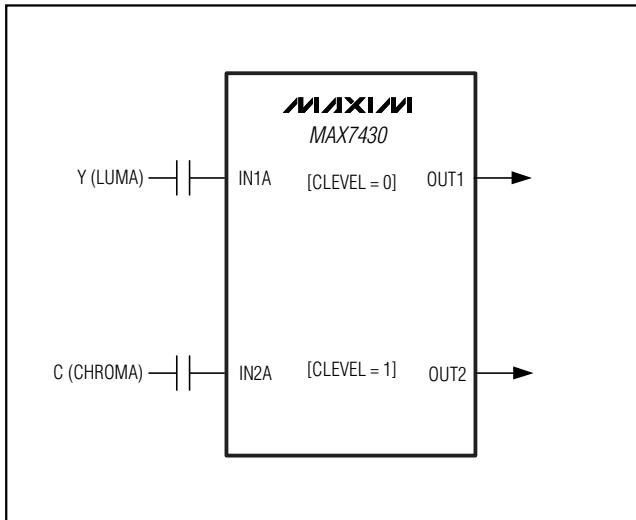

Figure 10. MAX7430 Y/C Video Filter Application
The MAX7430 is ideally suited for processing S-Video (Y/C) signals (Figure 10). Ensure that IN1_{_} filters the signal that contains the sync information (Y) since the clamping on IN2_{_} is internally controlled by the master channel (IN1_{_}) sync. Set the clamp level for IN1_{_} to +1V (CLEVEL1 = 0) and set the clamp level for IN2_{_} to +1.5V (CLEVEL2 = 1).